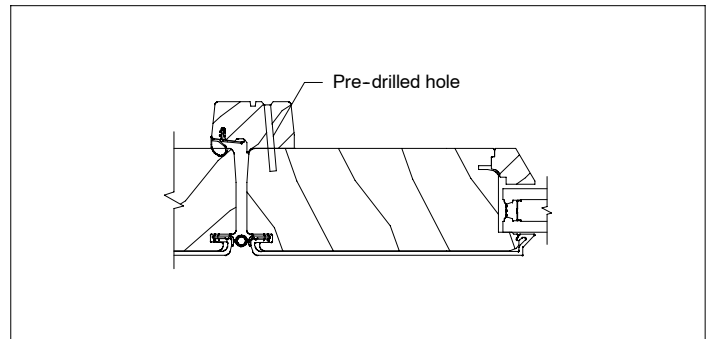

Figure 10
- Place mull base flush with the edge on one of the panels. Drill 1/8" pilot holes 3" in from each end and spaced 12" apart through the mull base and 1/2" into the door panel. See figure 10.